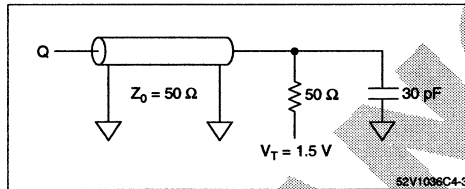

Figure 3. Output Load Equivalent
- Test conditions as specified with the output loading as shown in Figure 3 unless otherwise noted.
Output Load	See Figures 3 and 4